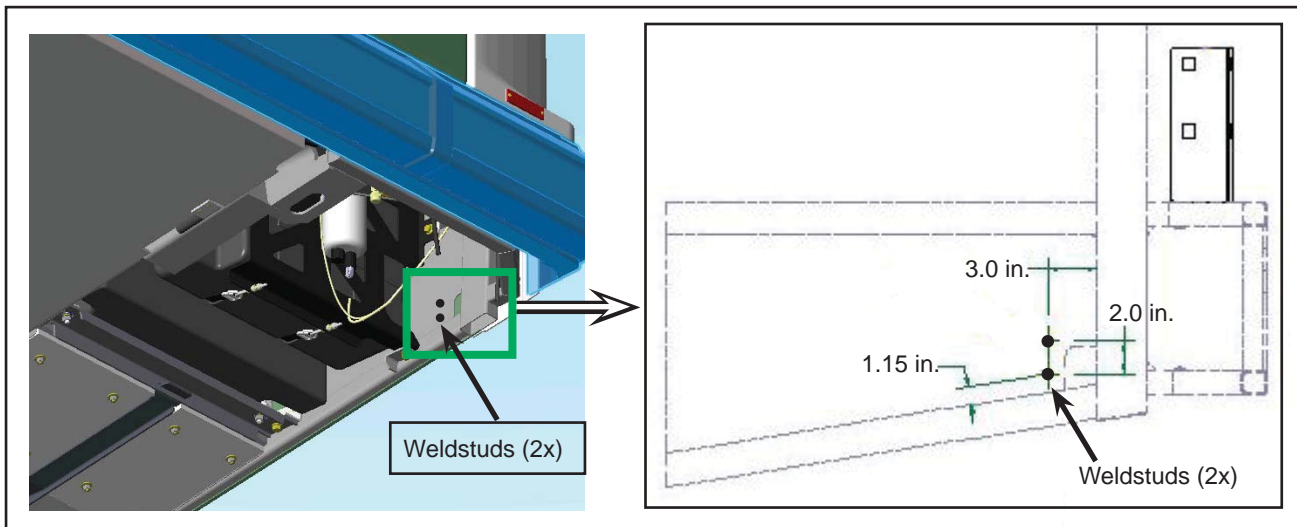

Figure 4 - Weldstuds Location
- 1.7. Install the two weldstuds N17926. See Figure 4.